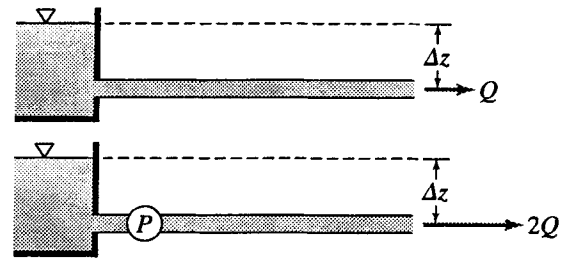

Figure X8.28.7
8.28.7 A 12-in-diameter pipe 9200 ft long ($f = 0.024$) discharges freely into the air at an elevation 18 ft below the surface of the water at intake (Fig. X8.28.7). It is necessary to double the flow by inserting a pump. If the efficiency of the pump is 73 per cent, how much power will be required?